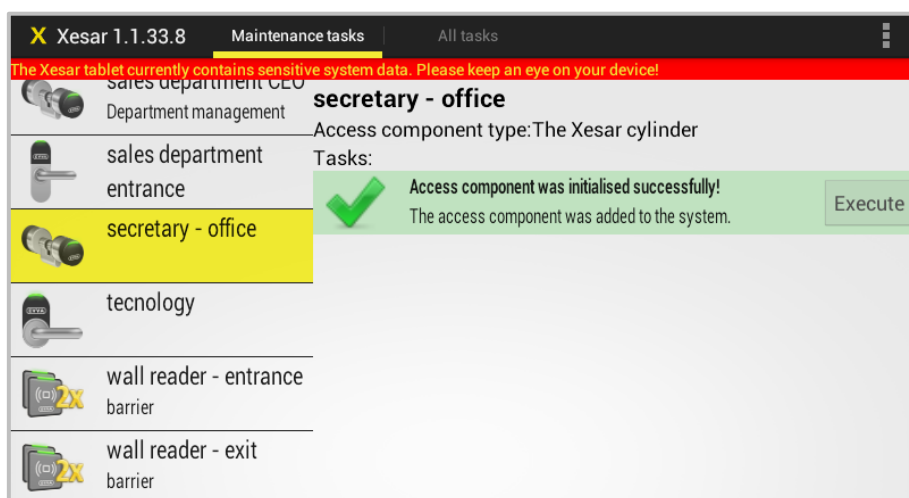

Figure 85: Xesar tablet — successful initialisation
- You have now added the Xesar access component to your Xesar locking system (Figure 85: Xesar tablet — successful initialisation).